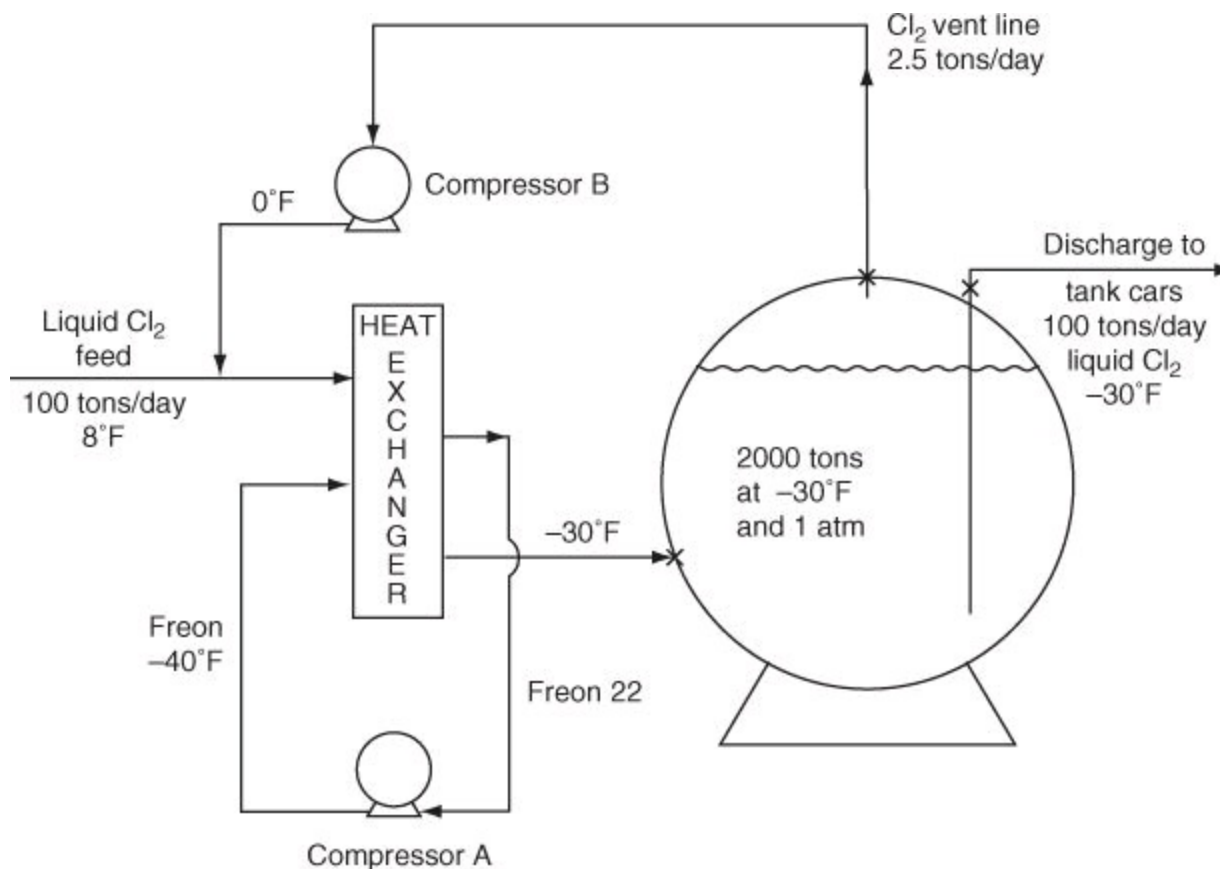

Figure P9.3.48
***9.3.48. A proposal to store Cl_2 as a liquid at atmospheric pressure was recently in the news. The operation is shown in Figure P9.3.48.